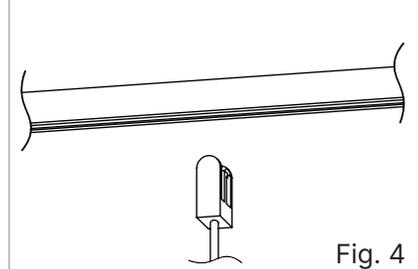
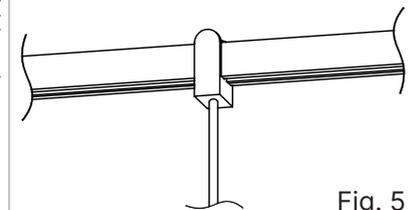

Fig. 4
Fig. 5
2. Align **Hanger** with **Power Bar** (Fig. 4) and press down firmly on the top of the Power Bar, while pressing up on the bottom of the Hanger, until the Power Bar clicks into place. (Fig. 5)